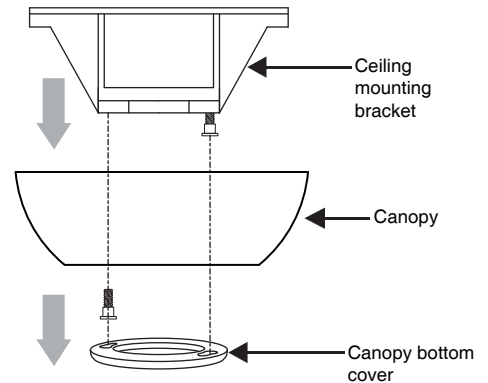

Fig. 4
1. Remove the decorative canopy bottom cover from the canopy by turning the cover counter clockwise. (Fig. 4)
2. Remove the mounting bracket from the canopy by removing 1 of the 2 screws from the bottom of the mounting bracket and loosening the other one a half turn from the screw head. Next, turn the canopy counter clockwise to remove the canopy cover from the canopy. (Fig. 4)